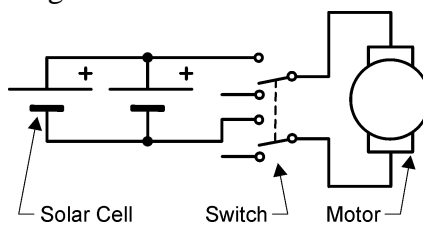

Figure 4 Parallel Circuit
- When the two sections are connected in parallel (Figure 4), in bright sunlight the motor receives approximately 1.5Volts at 0.4Amps.